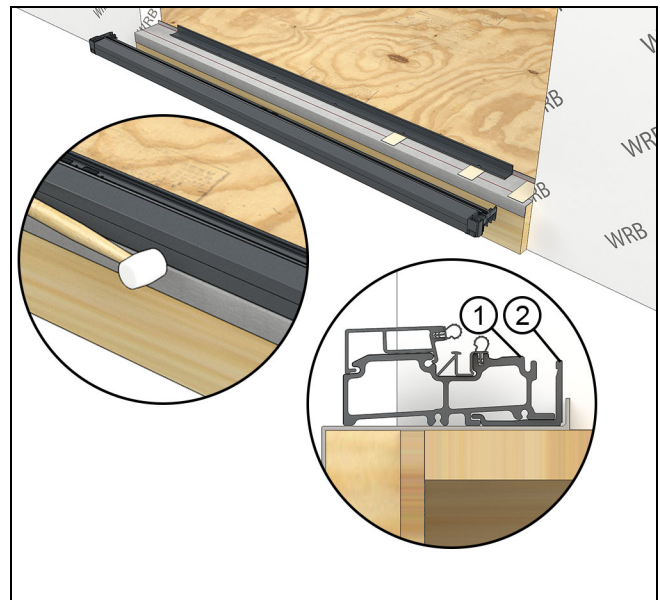

Figure 10
5. **Temporarily** install the sill frame member centered in the rough opening. Tap the sill into the sill support with a rubber mallet. See Figure 10